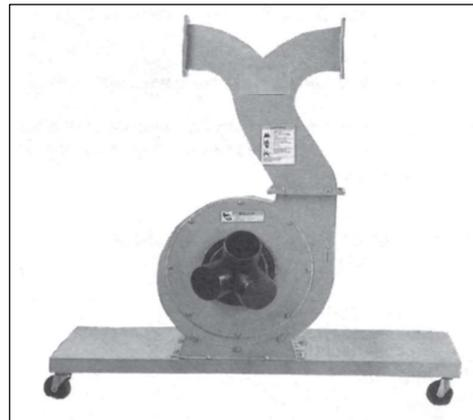

Fig. 3
3. Attach connector tube to fan housing using hex head bolts, washers, and nuts. Be sure connector tube faces the proper direction. (Fig. 3)